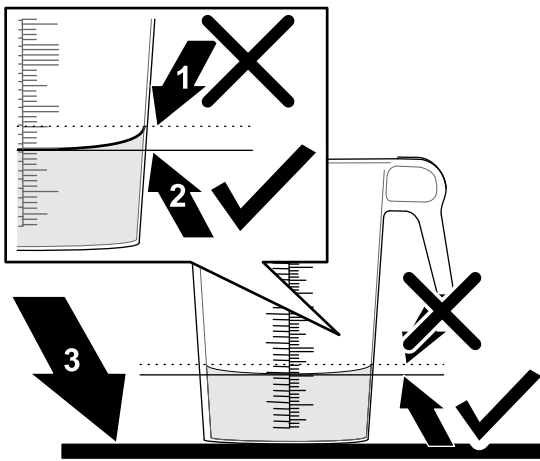

Figure 36
6. Set the graduated container on a level surface and note the fluid volume (Figure 36).